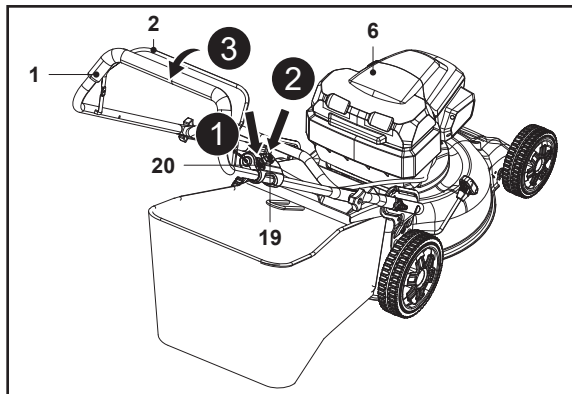

Fig. 15
1. Grip the cover handle (6c) and open the battery compartment cover (6), then fully insert the two battery packs (24).
2. Carefully close the battery compartment cover (6).
3. Stand behind the grip handle (1).
4. **Switch on the machine:** Press and hold the power button (20) for 2 seconds until its indicator lights up (Fig. 15, step 1). Release the power button (20) afterwards.
5. While depressing the safety button (19), pull the start lever (2) towards the grip handle (1) and hold in place (Fig. 15, steps 2, 3).
6. Once the lawn mower starts, release the safety button (19).
7. Continue to hold the start lever (2) against the grip handle (1) while mowing.